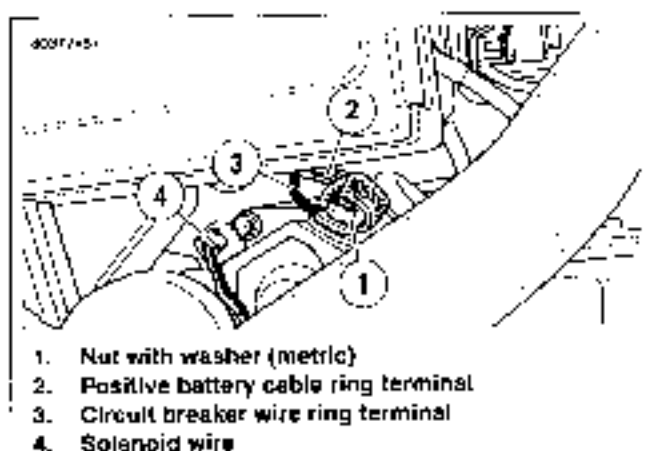

Figure 5-10. Starter Wires
7. See Figure 5-10. Remove protective boot. Remove nut with washer (1) (metric).
- a. Remove positive battery cable ring terminal (2).
- b. Remove circuit breaker wire ring terminal (3).
- c. Detach solenoid wire (4).
3. See Figure 5-10. Attach positive battery cable (2), circuit breaker wire (3) and solenoid wire (4). Tighten nut (1) (metric) to 60-85 in-lbs (5.8-9.6 Nm). Place rubber boot securely over terminal.